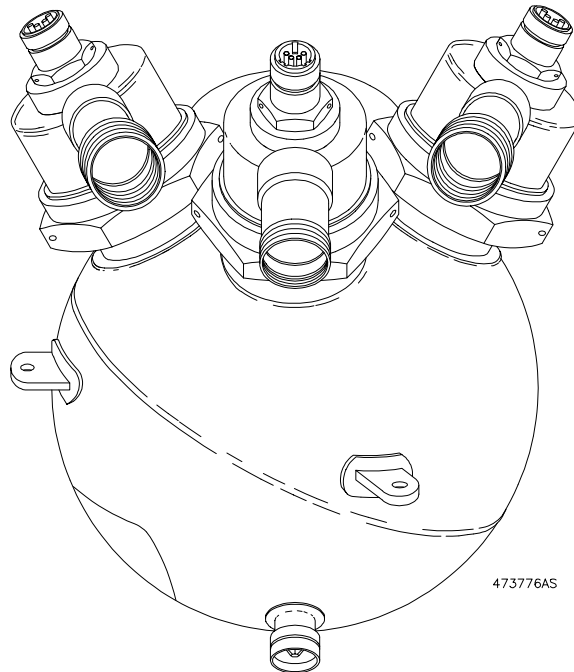

Figure 1. Fire Extinguisher Container
- A. The fire extinguisher (Figure 1) is called "container" in the pages that follow.
A. This section gives the procedures, materials, and equipment necessary to do the tests of the container and to find the defective parts. Do the visual checks, leak tests and the necessary repairs before you do the electrical and hydrostatic tests. See IPL Figure 1 for the location of the parts on the container.